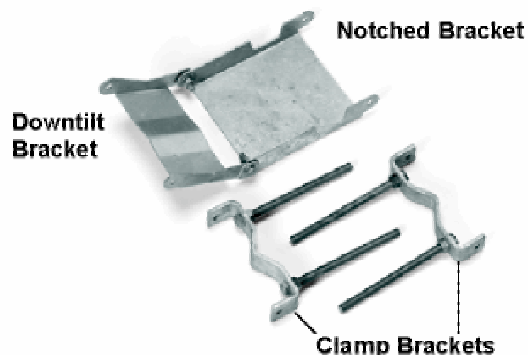

Figure 9. Downtilt and Clamp Brackets with Screws Attached
3. Insert two 1/2-13x7 1/2 screws through one of the clamp brackets (m-shaped) and secure the bolts using two 1/2-13 hex nuts. Repeat this step for the other set of 1/2-13x7 1/2 screws, clamp bracket, and 1/2-13 hex nuts (see Figure 9).
4. Connect the downtilt bracket to the notched bracket using two 3/8-16x1 1/4 hex head screws, #3/8 split lock washers, #3/8 (star) lock washers, and 3/8-16 hex nuts (see Figure 9).